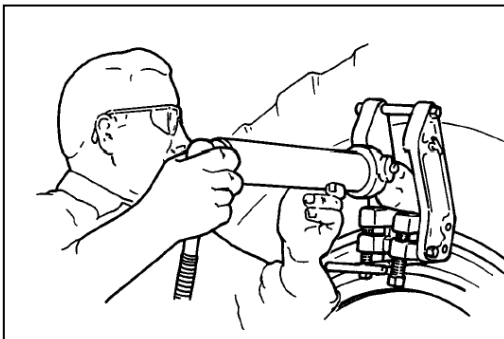

Figure 6
- Release pump pressure. Remove spade and cylinder assembly from frame. Loosen clamping jaw bolts and remove from flange. Move to spot approximately 90° from first application (either direction) and repeat entire procedure. Repeat procedure until tire bead is free. Four or five applications usually accomplishes this. See Figure 6.